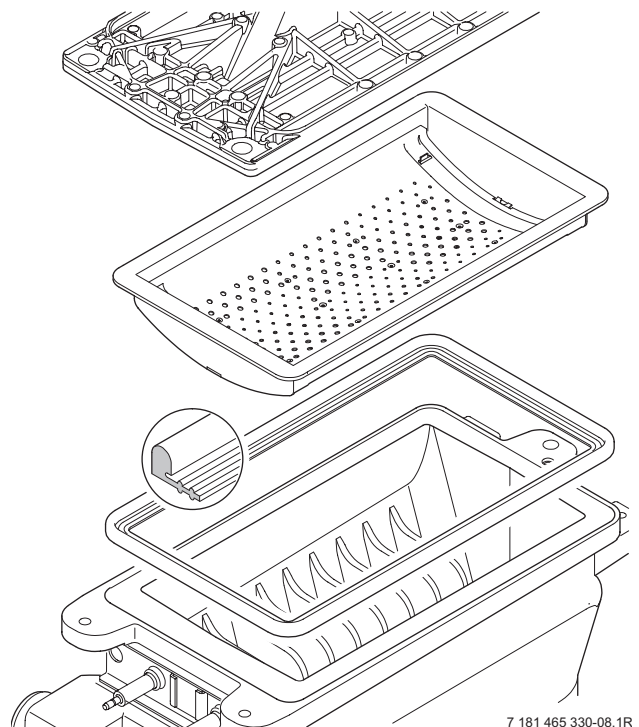

Fig. 50
- Remove the burner skin and clean components. Do not use a wire brush. Refer to fig. 50.